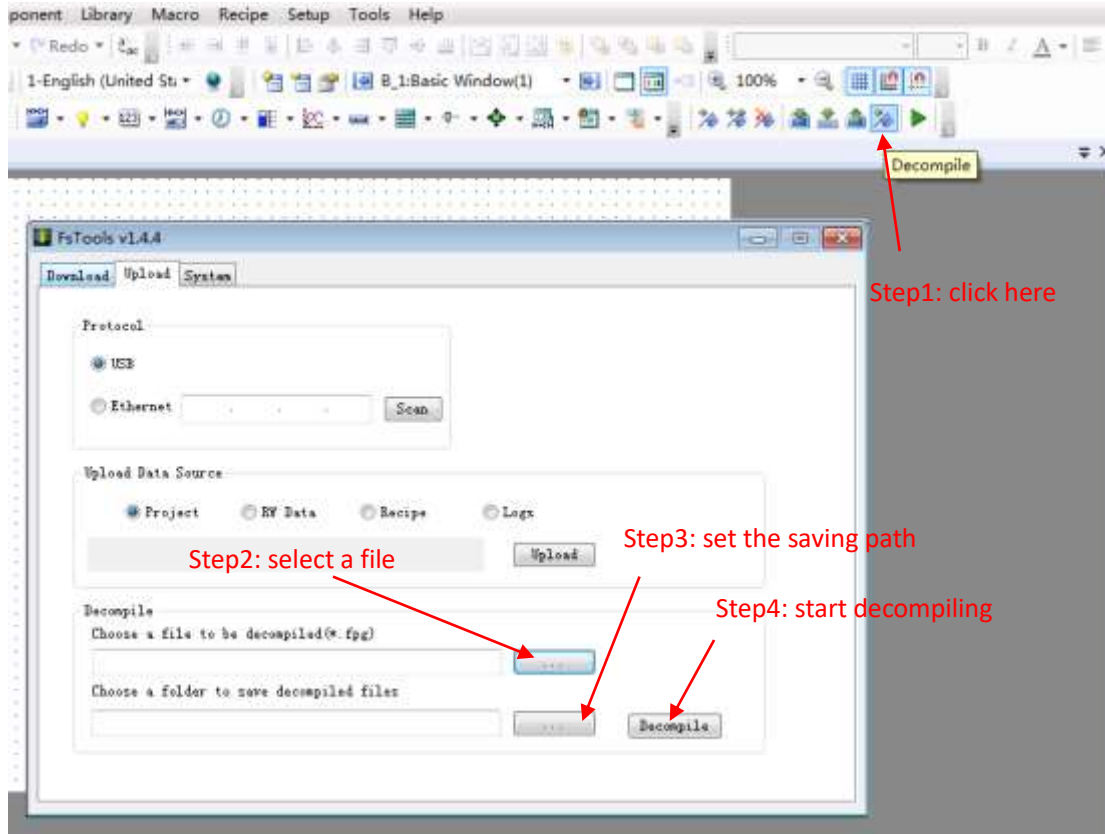

Fig. 17
①Firstly, click the tool button “Decompile”, select the package fpg file, set the project saving path, and click the “Decompile” button, as shown in Fig. 17.